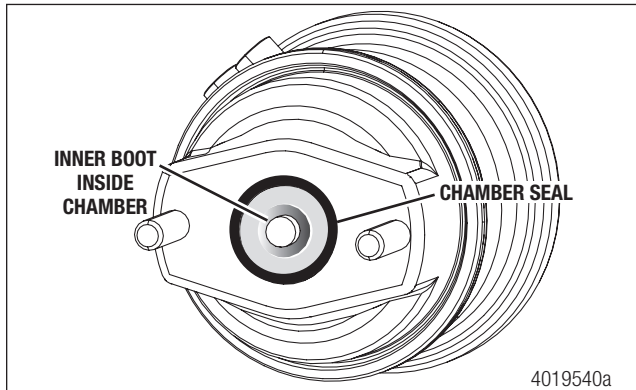

Figure 17
10. Inspect the chamber inner boot for damage. If the inner boot is damaged, replace the brake chamber per the manufacturer's recommendations. Figure 17.
11. Inspect the external face seal for cuts, cracks or missing segments. Replace the chamber if the seal is less than 3 mm in height. Figure 17.